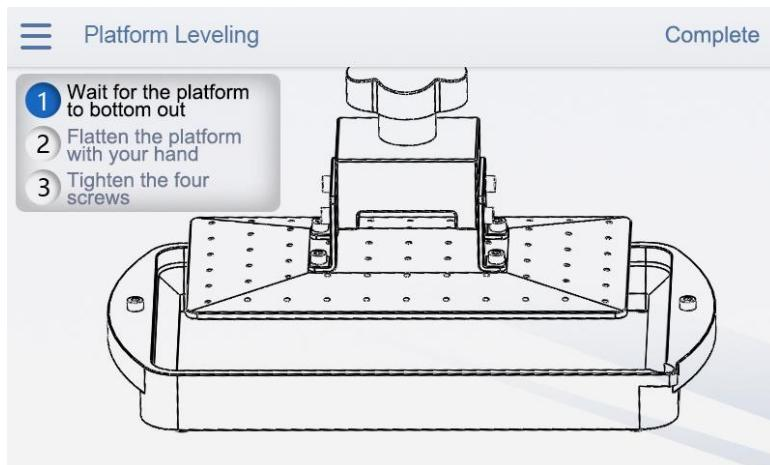

Figure 3-13
4. After completing the operation, click 【Complete】 as shown in figure 3-13 to finish the leveling process.